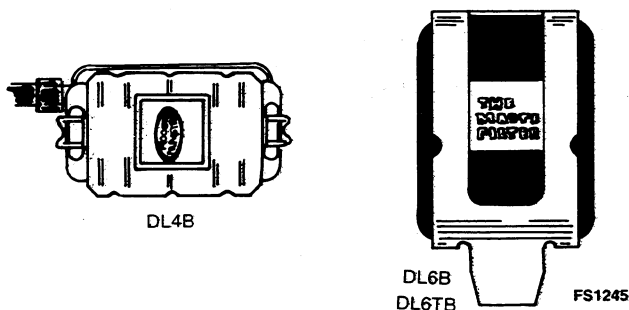

FIGURE 13. FUEL FILTERS
3. Remove filter retaining clip or clips from fuel filter (see Figure 13).